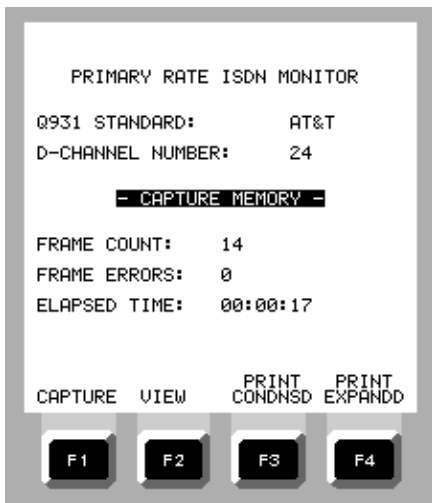

Figure 2-30. PRIMARY RATE ISDN MONITOR Screen
- h. PRI ISDN, MONITOR (Part of Option 09) - Allows the test set to capture, view, and print control data contained in the ISDN D-channel (Figure 2-30).